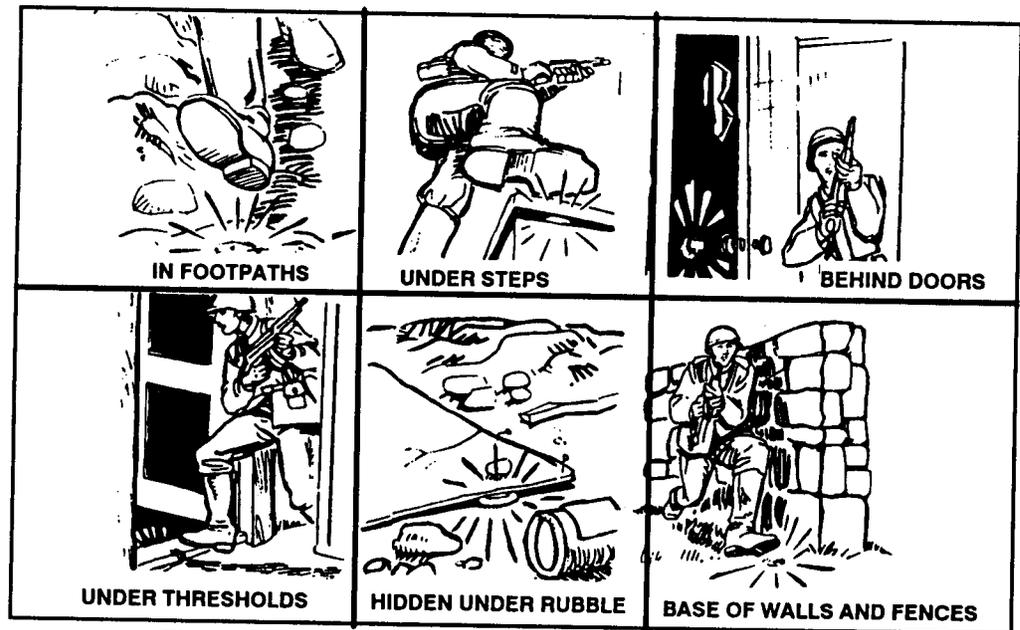

Figure C-5. Emplacing the M14 antipersonnel mine.
a. The M14 mine should be used with metallic antipersonnel, antitank, or chemical mines to confuse and hinder enemy breaching attempts. It must be carefully employed because its light weight makes it easy to displace (Figure C-5, page C-8). However, its size makes it ideal for obscure places such as stairs and cellars.